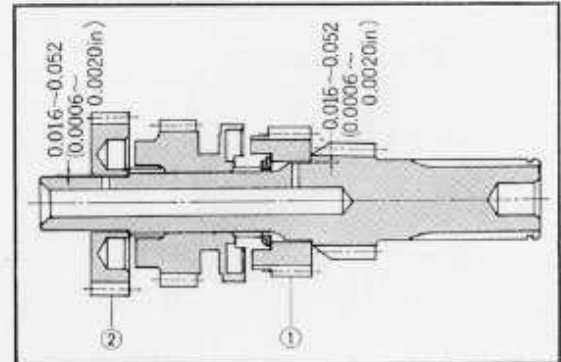

Fig. 3.99 Main shaft to gear clearance
1. Main shaft to main shaft gear clearance (Fig. 3.99)